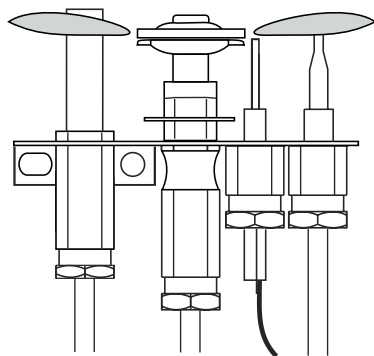

Figure 34. Pilot Burner.
- 1. Locate Pilot Adjustment Screw. (See figure 34.)
- 2. Adjust pilot screw to provide properly sized flame as shown in figure 34).